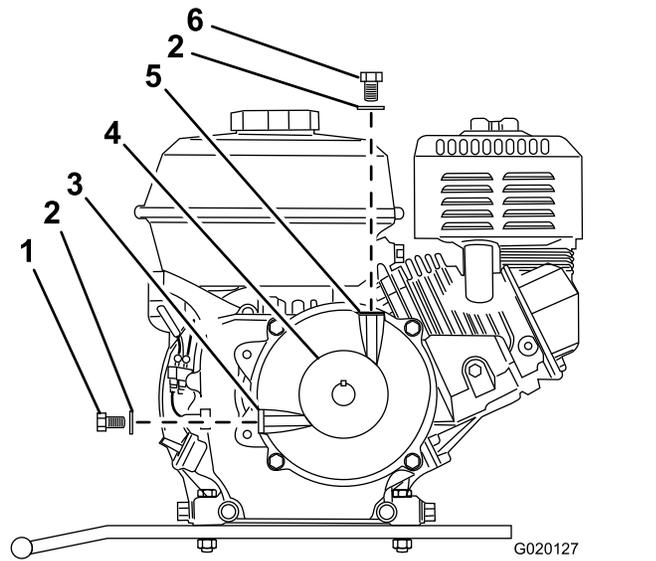

Figure 66
3. Remove the filler bolt and washer from the filler port on the top of the reduction case (Figure 66).
4. Remove the oil-level-check bolt and washer from the oil-level port in the side of the reduction case (Figure 66).
9. Install the oil-level-check bolt and washer to the oil-level port of the reduction case and tighten the oil-level-check bolt (Figure 66).
10. Install the filler bolt and washer to the filler port of the reduction case and tighten the filler bolt (Figure 66).